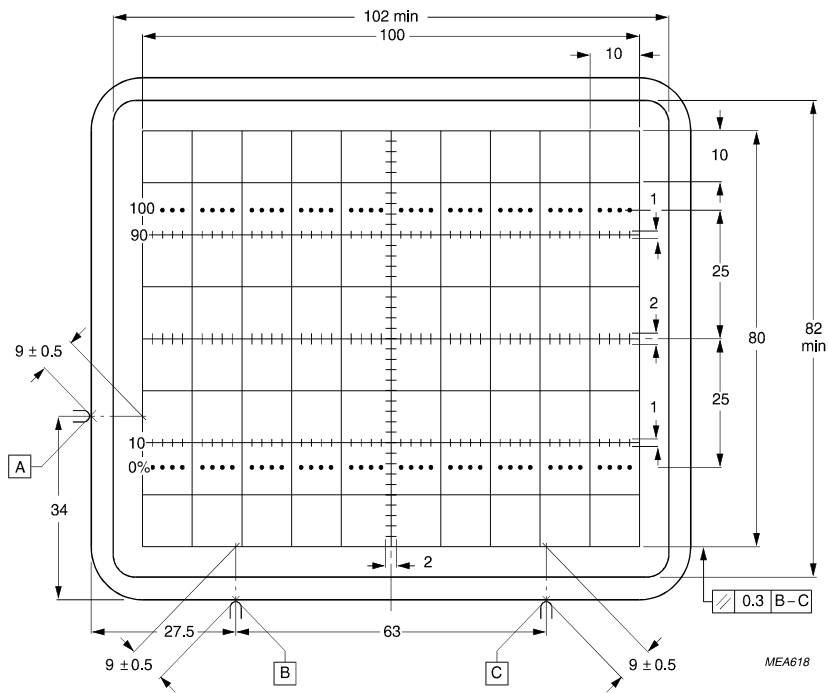

Fig 4. Front view of tube with internal graticule, type 123.
Internal graticule	type 123 (see Fig.4)
The tube can be mounted in any position. It must not be supported by the socket and not by the base region alone. The reference points on adjoining edges of the faceplate (see Fig.4) enable the tube to be positioned accurately in the front panel, for optimum alignment of the internal graticule.
- (1) Dimensions of faceplate only. The complete assembly of faceplate and cone (frit seal included) will pass through an opening of 122 mm x 102 mm (diagonal 153 mm).
- (2) Reference points on faceplate for graticule alignment (see Fig.4)
- (3) The centre of the final accelerator contact is situated within a square of 10 mm x 10 mm around the indicated position.
- (4) The length of the rotation coil connecting leads is minimum 350 mm.
- (5) The coil is fixed to the envelope with resin.
1. Because the frit seal is visible through the faceplate, and is not necessarily aligned with the internal graticule, application of an external passe-partout with an open area of max. 102 mm x 82 mm is recommended. The internal graticule is aligned with the faceplate by using the faceplate reference points (see Fig.4).